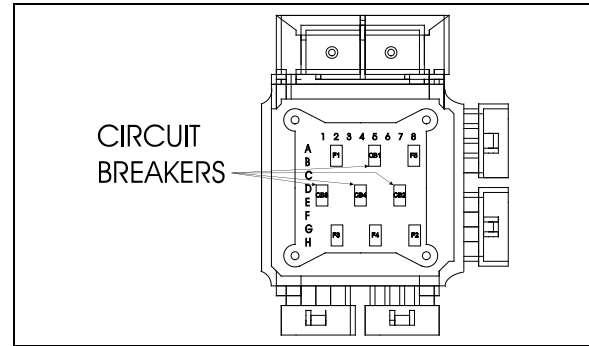
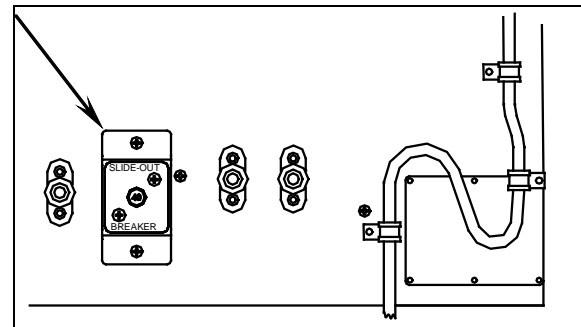

FIGURE 88: VEC CIRCUIT BREAKERS ON SLIDE-OUT CONTROL PANEL
FIGURE 89: MAIN SLIDE-OUT BREAKER IN ENGINE R.H. SIDE ACCESS COMPARTMENT
- Make sure that none of the breakers are tripped (the breakers are located inside the VEC on the slide-out control panel (Figure 88) and the main slide-out breaker is located in the engine R.H. side access compartment (Figure 89).